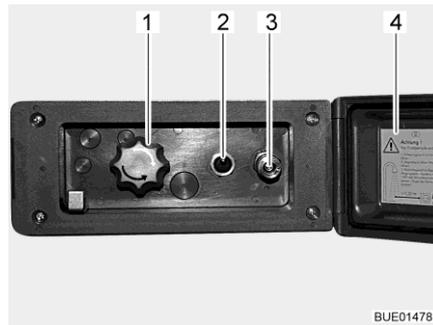

Fig. 173 External shower connection point
- Unlock and open the cover (Fig. 173,4).
- Attach hose of the external shower to the quick closure (Fig. 173,3).
- Switch on the water pump using the switch (Fig. 173,2).
- Adjust the water temperature with the rotary knob (Fig. 173,1) as desired.
- Switch off the water pump using the switch (Fig. 173,2).
- Close the cover (Fig. 173,4) and lock with key.
- Turn knob (Fig. 173,1) to the central position.